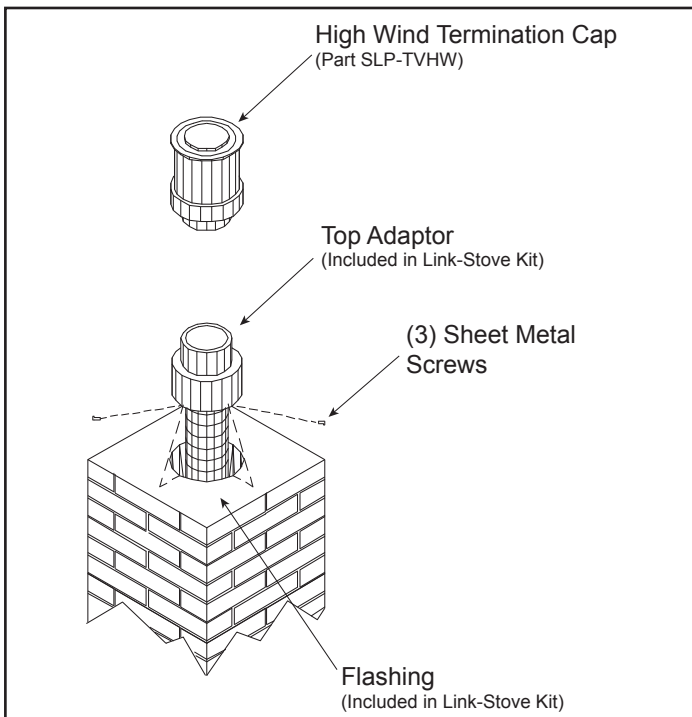

Figure 4.17
- Secure the top adapter to the flashing. Use three sheet metal screws through the side of the top adapter into the flange on the flashing. See Figure 4.17. Twist lock the high wind termination cap on to the top adapter.